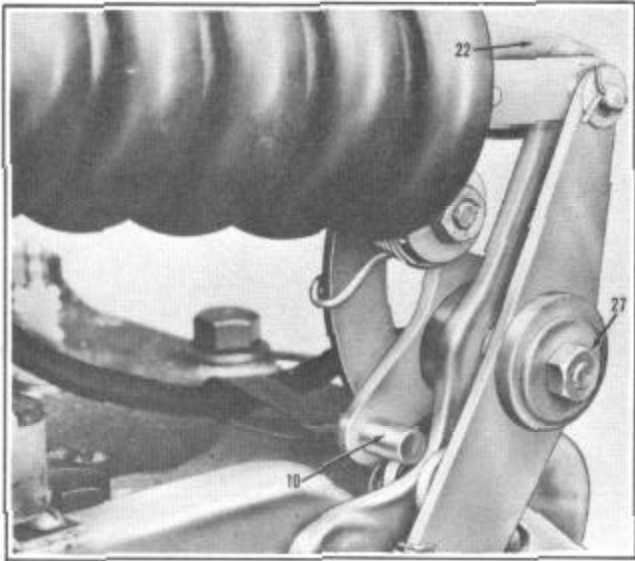

FIGURE 22
Check compensator by pushing the compensator lever and pin (10), Figure 22, down to its normal running position; piston rod (22) should move forward. If the piston rod (22) moves backward, the eccentric (27) is assembled upside down.